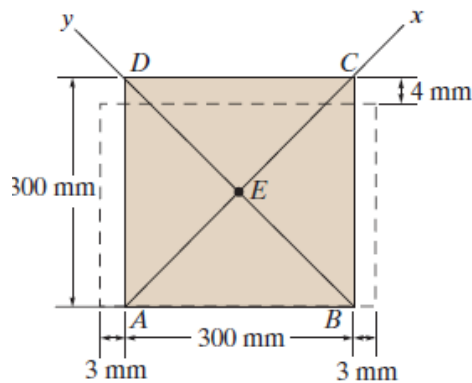

Fig. 5
5. The square plate is deformed into the shape shown by the dashed line in Fig. 5. Determine the average normal strain along diagonal  $AC$  and the shear strain of point  $E$  with respect to the  $x$  and  $y$  axes. [  $(\epsilon_{AC})_{avg} = 0.00347 \text{ mm/mm}$ ;  $(\gamma_E)_{xy} = -0.0332 \text{ rad}$  ]